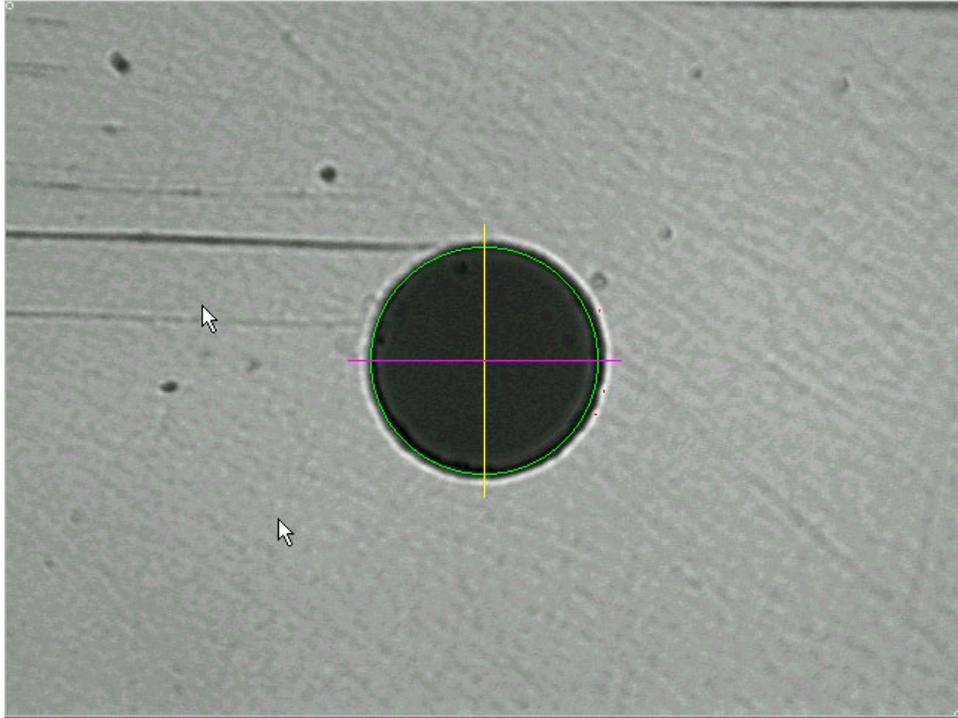

Figure 6.
- Turn on the power switch for the ZX-1 mini PMS, Processor, VGA monitor and the printer. Assuming everything is connected correctly, the computer should automatically boot up and start the DORC PMS program. If a connector was left in the ZX-1, and the red **Reference Out** or **Inspect Mode** button on the ZX-1 mini PMS front panel is illuminated, an image similar to figure 6 should be obtained. In the event that no connector is inserted, the image area of the screen will remain blank.